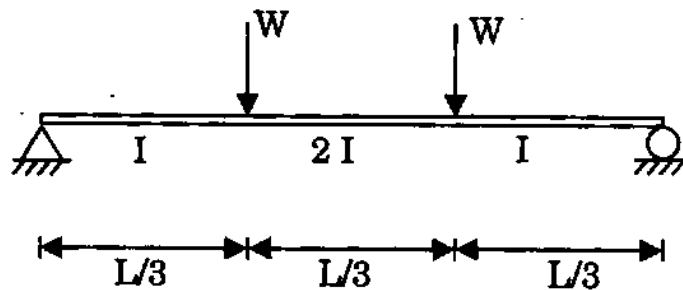

Figure 6
- (b) A simply supported beam carries two point loads  $W$  each at its one-third sections as shown in Figure 6. Determine the maximum deflection at its mid-span and slope at an end using the conjugate beam method. 15